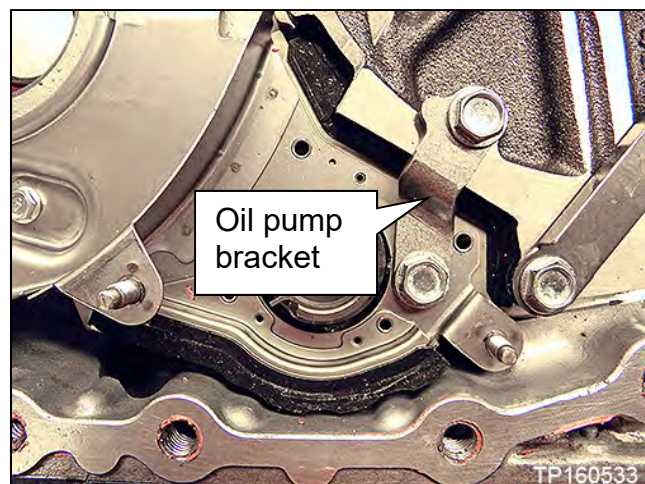

Figure 45
26. Remove the oil pump bracket (Figure 45).